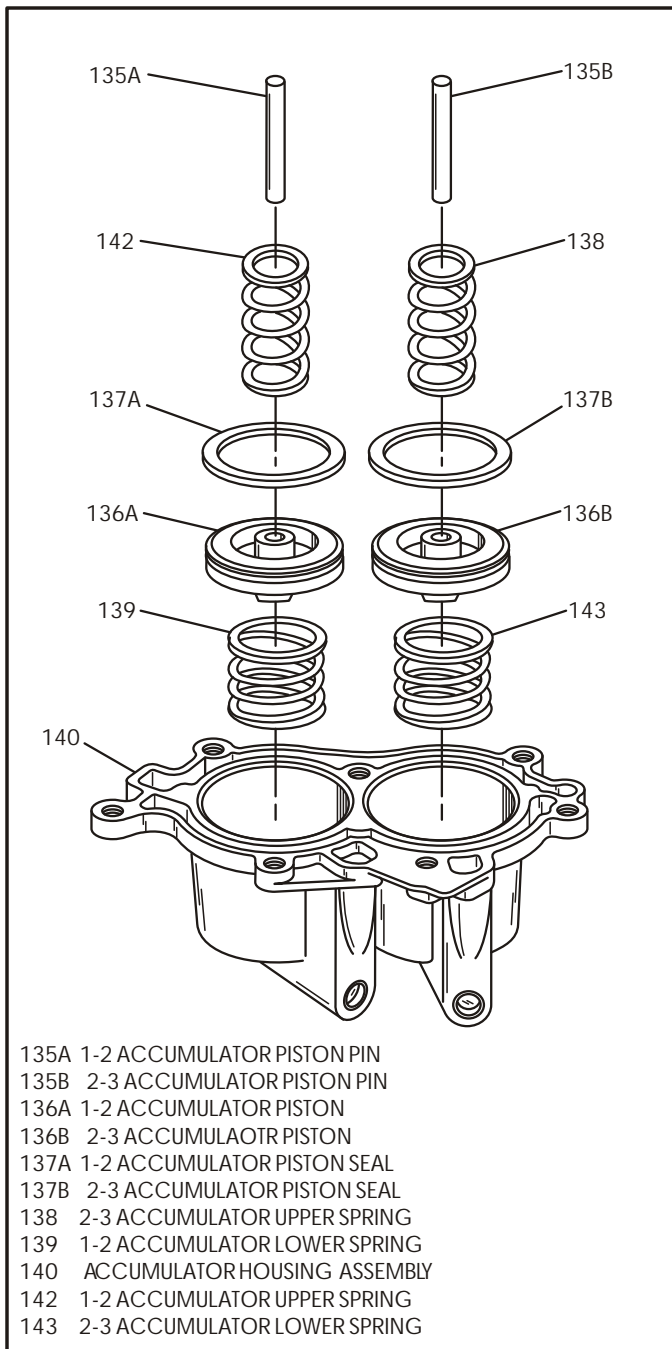

Figure 127
1. Inspect all accumulator parts shown in Figures 127, 128 and 129, for any wear or damage.
2. Install new accumulator seals onto the 1-2 and 2-3 accumulator pistons, and lubricate seals with light coat of petrolatum (See Figure 127).
3. Install the lower accumulator springs into the accumulator housing, as shown in Figure 127.
4. Install both 1-2 and 2-3 accumulator pistons in the accumulator housing with the tabs facing down, as shown in Figure 127.
5. Install both accumulator piston pins through the pistons into the housing, shown in Figure 127.
6. Install the upper accumulator springs into the housing on top of the pistons (See Figure 127).